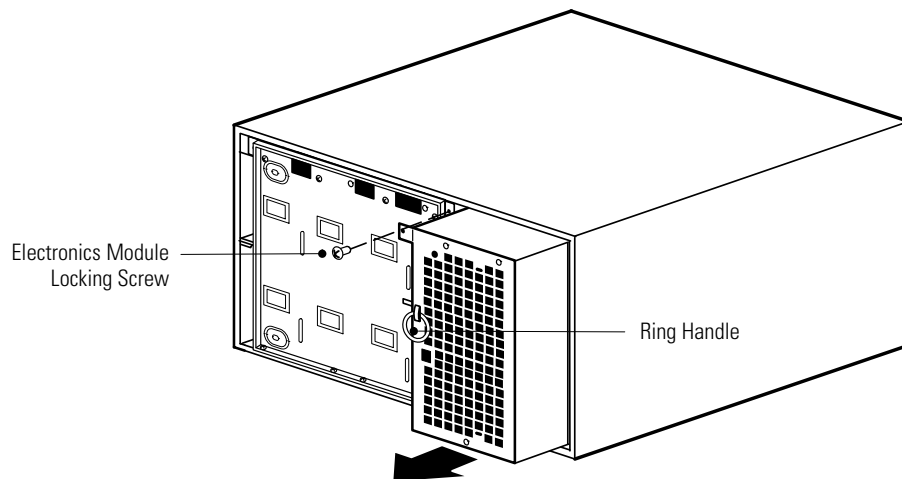

Figure 47. Removing the Electronics Module
10. Remove the electronics module and set it aside (see Figure 47):
17. Reinstall the electronics module locking screw (see Figure 47 on page 62).